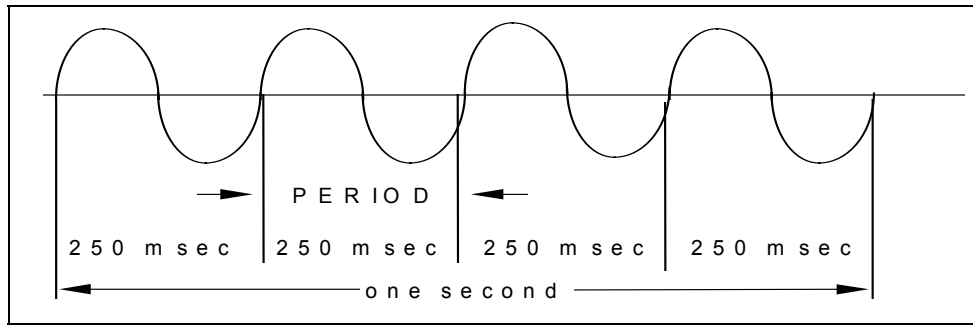

Figure 4: Measuring Period.
- The **period (T)** of the signal is defined as the time it takes for a signal to complete one full **cycle**. The period is the horizontal component of the signal, measured in units of seconds (s). In Figure 4, the period of the signal is measured as 250 milliseconds (250.0×10^{-3} s).
- In Figure 4, above, you can see four(4) cycles occurring within one second; therefore, the signal has a frequency of 4 Hz.